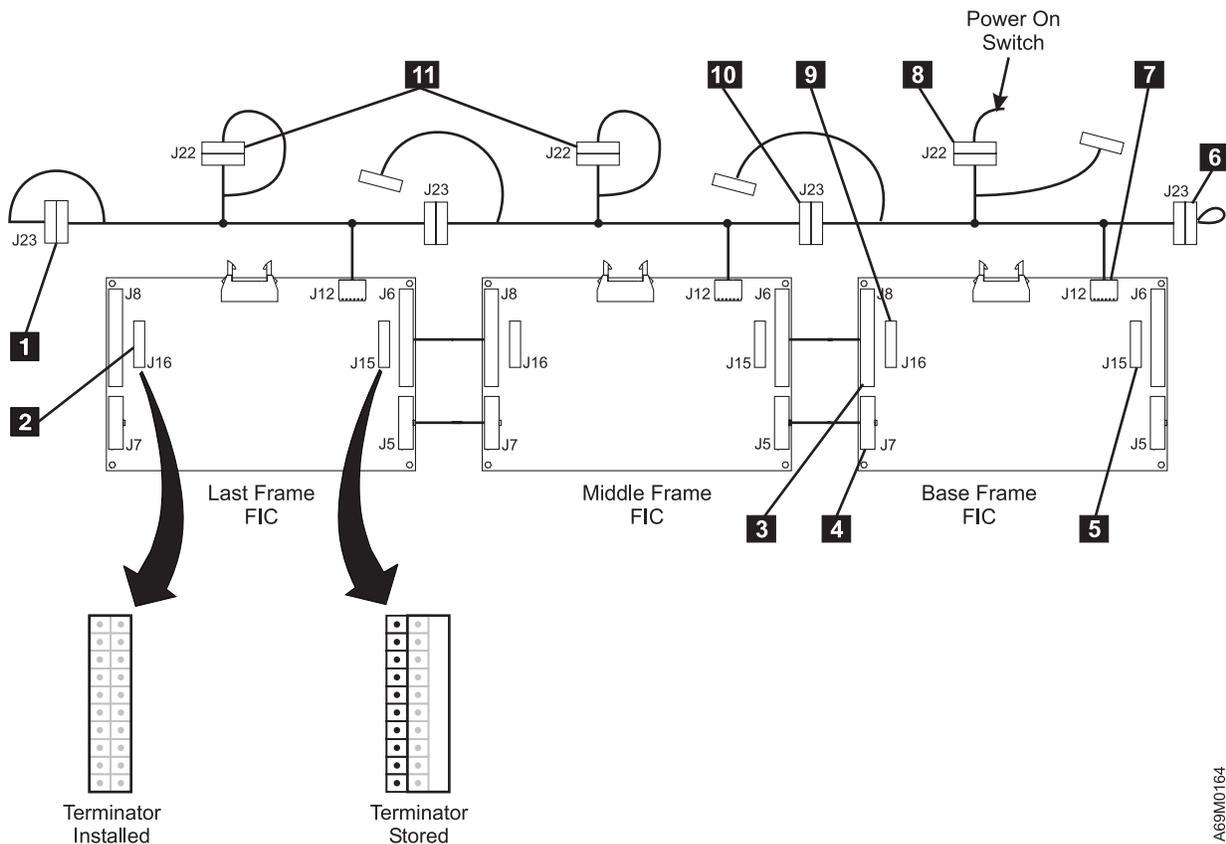

Figure 81. Placement of FIC Card when Emulating a Single Frame
3. Refer to Figure 81. Unplug the signal cable from the J8 connector **3** on the left side (as viewed from the rear) of the FIC card in frame 1.